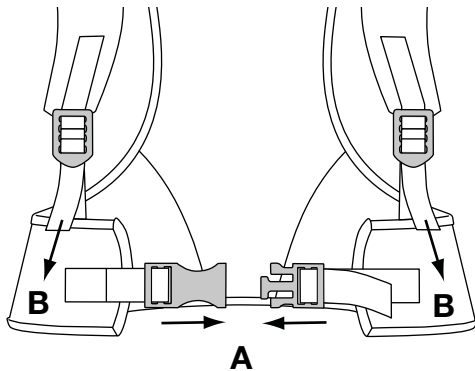

Fig. 17
2. Close the suspension system's waist support by sliding the waist support clips together (Fig. 17, A).
4. Pull the shoulder support handles to tighten the shoulder supports (Fig. 17, B).